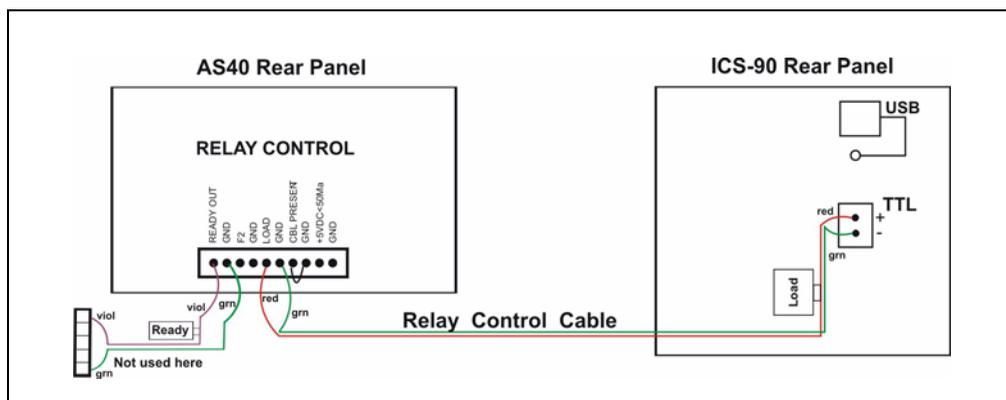

Figure B-25. AS40 Autosampler Connection
- b. Connect the Relay Control cable's 10-pin connector to the **RELAY CONTROL** connector on the AS40 rear panel (see Figure B-25).